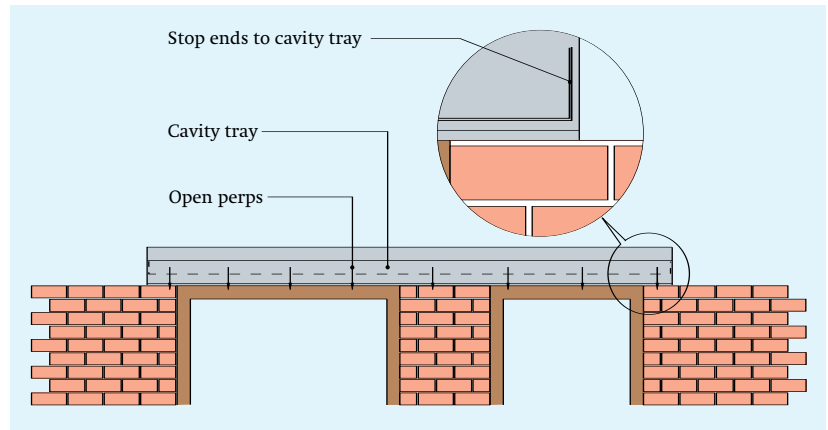

Figure 1 Cavity trays
- 6 Cavity trays should be continuous across closely spaced openings (Figure 1) and stop ends provided.